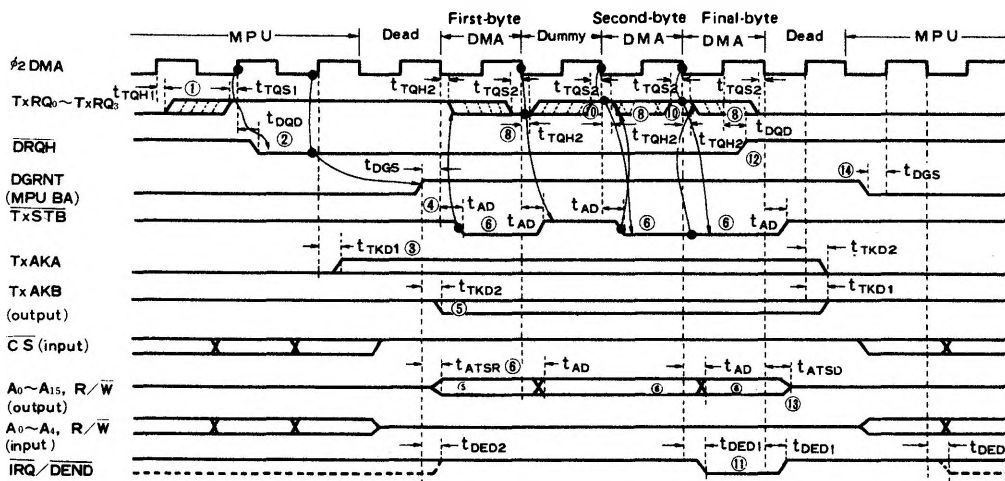

Figure 16 HALT Burst Mode
Its timing chart and flow chart are shown in Fig. 16 and Fig. 13 respectively. Procedure of transfer is the following (No. ① ~ ⑭ in Fig. 16 correspond to the following items).
- ① TxRQ input is checked at the rising edge of ϕ_2 DMA. When it is at "High" level, it gets into the following operation.
- ② DRQH="Low" level is given and MPU is requested to stop its operation.
- ③ TxAKA is driven.
- ④ MPU stops and DMAC waits for DGRNT rising "High" level.
- ⑤ When DGRNT rises "High" level, DMAC drives TxAKB, $A_0 \sim A_{15}$, and R/W lines.
- ⑥ TxSTB is sent out to perform DMA transfer.
- ⑦ Address is incremented by one and number of transfer words is decremented by one.
- ⑧ TxRQ falls to "Low" level.
- ⑨ When number of transfer words is 0, from ⑪ to ⑭ operations are performed.
- ⑩ When BCR is not "0", TxRQ is checked at the falling edge of ϕ_2 DMA. When TxRQ is at "High" level, DMA transfer is performed through ⑥ ~ ⑧ again. When TxRQ is not at "High" level, DMAC waits for becoming "High" level.
In burst mode, TxRQ should be also, in principle, set to "High" when I/O request is asserted, and reset to "Low" when TxSTB goes to "Low". If TxRQ is asserted as level input without being reset, DMA transfer is performed at all cycles of ϕ_2 DMA since TxRQ is always at "High" level at the falling edge of ϕ_2 DMA. Its example is shown in the second-byte and the third-byte transfer in Fig. 16.